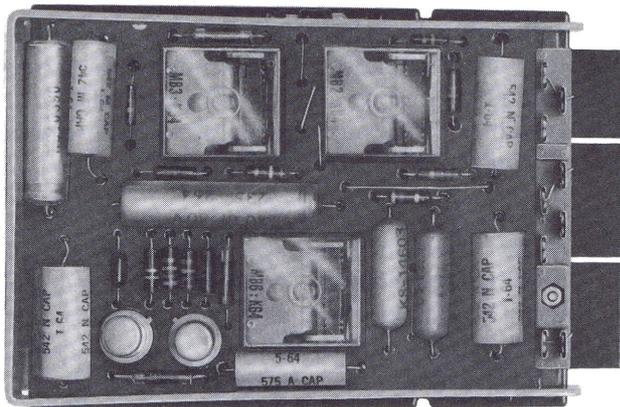

Fig. 1 — 400B Key Telephone Unit
**2.06** The 400A and B KTUs (Fig. 1) are identical units with the exception of an additional diode (CR4) connected on the 400B KTU. This diode serves to prevent a system from falsely indicating an incoming call at a station following a momentary power interruption.
**4.01** The printed circuit wiring extends to the contacts of the KTUs, which are on one side of the circuit board along the plug-end (Fig. 1, 2, and 3). See Table C for lead designations.